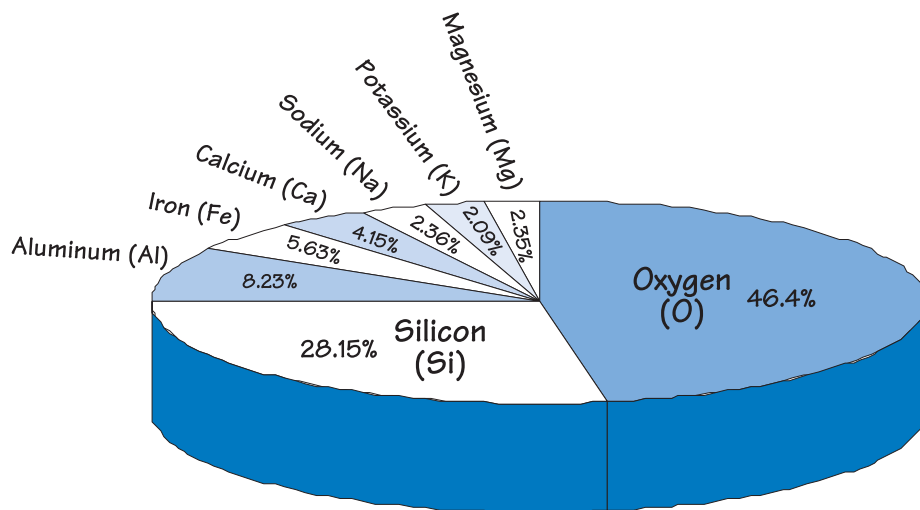

Figure 5.1: Mineral percentage by mass in the Earth's crust.
Elements are the building blocks of minerals. The mineral quartz, for example, is made of the elements silicon and oxygen. Most minerals present in nature are not composed of a single element, though there are exceptions such as gold (Au). Eight elements make up (by weight) 99% of the Earth's crust, with oxygen being by far the most abundant (46.4%). The remaining elements in the Earth's crust occur in very small amounts, some in concentrations of only a fraction of one percent (*Figure 5.1*). Since silicon (Si) and oxygen (O) are the most abundant elements in the crust by mass, it makes sense that quartz ( $\text{SiO}_2$ , silicon dioxide or silica) is one of the most common minerals in the Earth's crust and is found all over the Midwest.